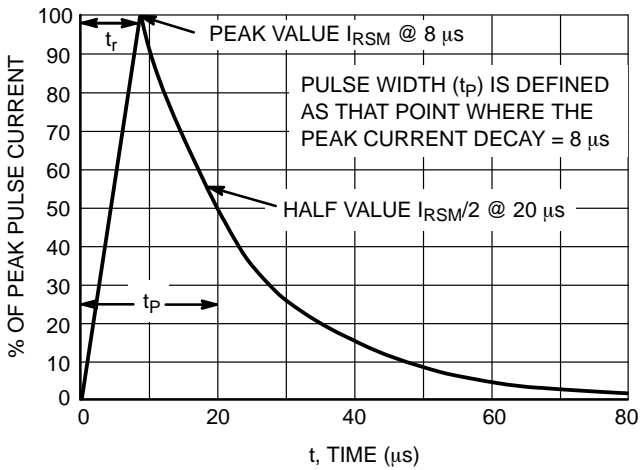

Figure 3. 8/20 μs Pulse Waveform
1. Non–repetitive current pulse per Figure 3
4. 8/20 μs pulse waveform per Figure 3